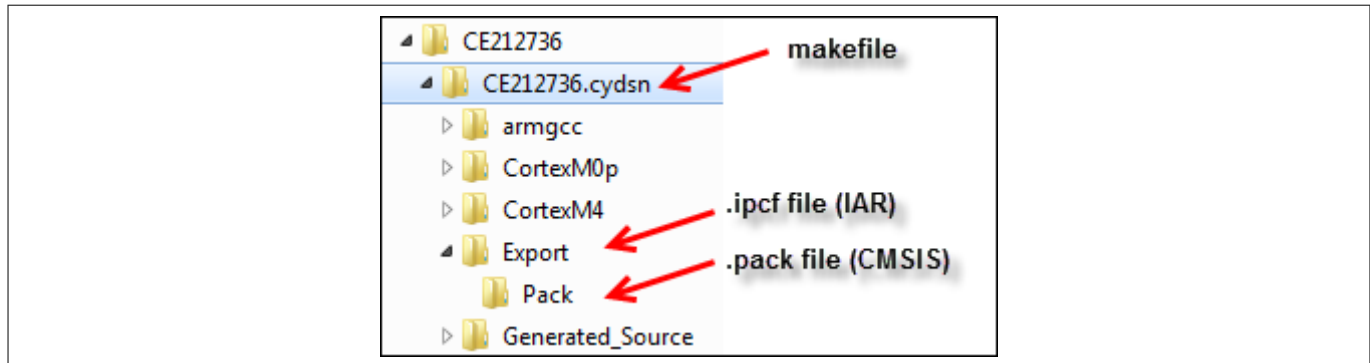

Figure 4 Where to find export packages
- Import generated code into each project file. Figure 4 shows where each package is located